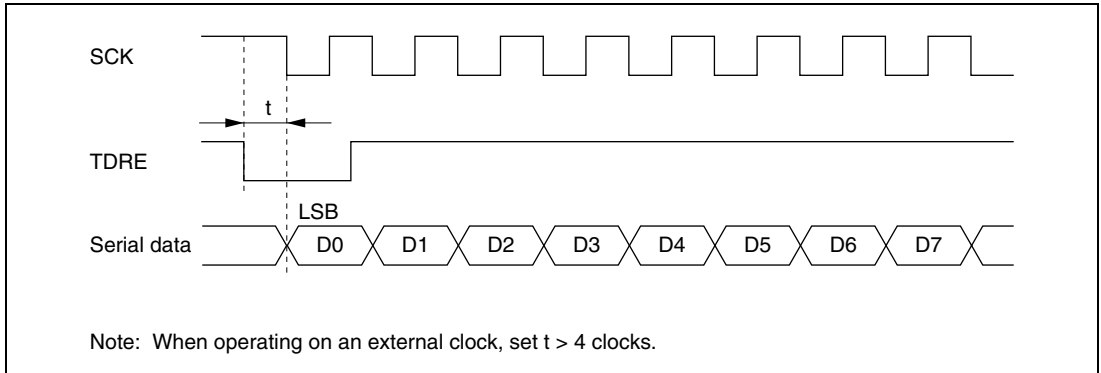

Figure 13.35 Example of Synchronous Transmission Using DTC
- When an external clock source is used as the serial clock, the transmit clock should not be input until at least 5 ϕ clock cycles after TDR is updated by the DTC. Misoperation may occur if the transmit clock is input within 4 ϕ clocks after TDR is updated. (Figure 13.35)